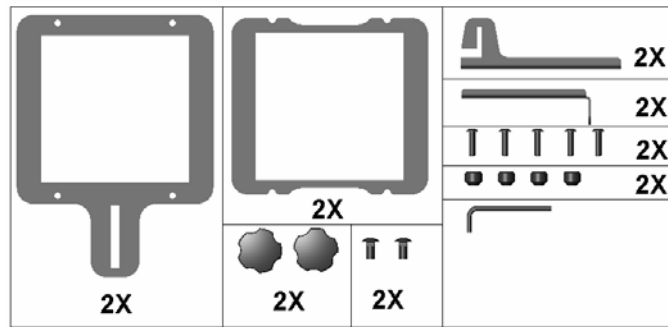

Figure 1
- (1) 1/8" Hex Key
**BEFORE PROCEEDING:** Unpack the carton, verify contents shown in Figure 1 and read installation instructions completely. If you are missing any of the listed components, please contact Customer Service at 1-800/582-6480.